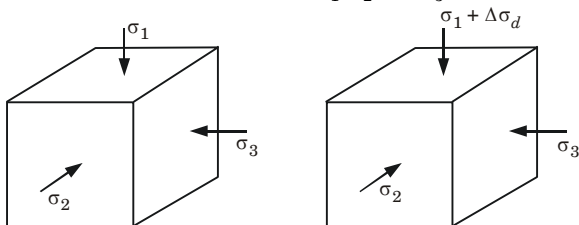

Fig. 3. Pore pressure under deviator stress.
- Let us consider the element of a saturated soil which is in equilibrium under three principal stresses σ_1 , σ_2 and σ_3 , are shown in Fig. 3.